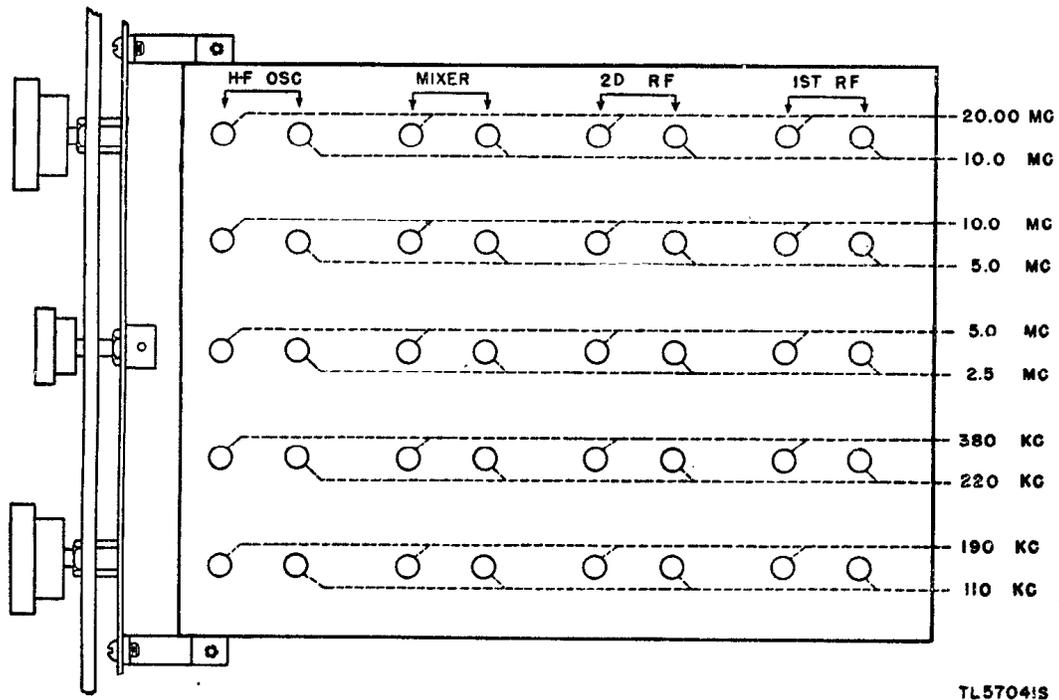

Figure 46. Radio Receiver BC-779-(*), alinement chart.
shown in figures 46, 47, 48, and 49, respectively. If necessary, the second harmonic can generally be used when the fundamental frequency is not available. For example, a signal generator covering all frequencies from 100 kc to 20 mc, in addition to being ideal for checking Radio Receiver BC-779-(*), could be used to check Radio Receiver BC-794-(*), by using the second harmonic of 20 mc instead of the 40 mc called for in figure 47. The signal generator should have an output of about 100 microvolts and an output impedance of approximately 100 ohms for best results when alining the r-f and h-f oscillator circuits. For i-f alinement these values are not critical. The frequency calibration of the signal generator is extremely important in order that the receiver dial calibration be correct.
b. To correct dial calibration, refer to an alinement chart, figure 46, 47, 48, or 49 for the location of the h-f oscillator adjustments as well as the signal frequencies at which the settings should be made. If the 2.5- to 5.0-mc band is to be corrected, the signal generator may be *accurately* set to 2.5 mc and its second harmonic (if strong enough) used for the 5.0-mc end of the band. In either case, whether the 5.0-mc frequency is the fundamental or second harmonic, the 5.0-mc frequency *must* be accurate. This requires that the setting of the signal generator be accurately adjusted by the use of a frequency meter as described in paragraph 94. The output of the signal generator should be unmodulated and the SIGNAL MOD-CW switch on the receiver turned to CW. Set the BEAT OSCILLATOR control at 0, the AUDIO GAIN at 10, and the AVC-MANUAL switch on MANUAL. Disconnect the output meter and use headphones or loudspeaker to make the necessary adjustments by the zero beat method. Connect the signal generator to the antenna terminals for this test.
c. Set the receiver MAIN TUNING dial to the 5.0-mc end and then tune it to zero beat with the 5.0-mc output of the accurately calibrated signal generator. Notice the approximate dial error. Then turn the MAIN TUNING dial slightly toward the 5.0-mc calibration line until the beat note rises to a high pitch. Do not turn the dial far enough to raise the beat note so high that you cannot hear it. With the alinement screw driver adjust the trimmer capacitor marked H-F OSC-5.0 MC (fig. 46, 47,